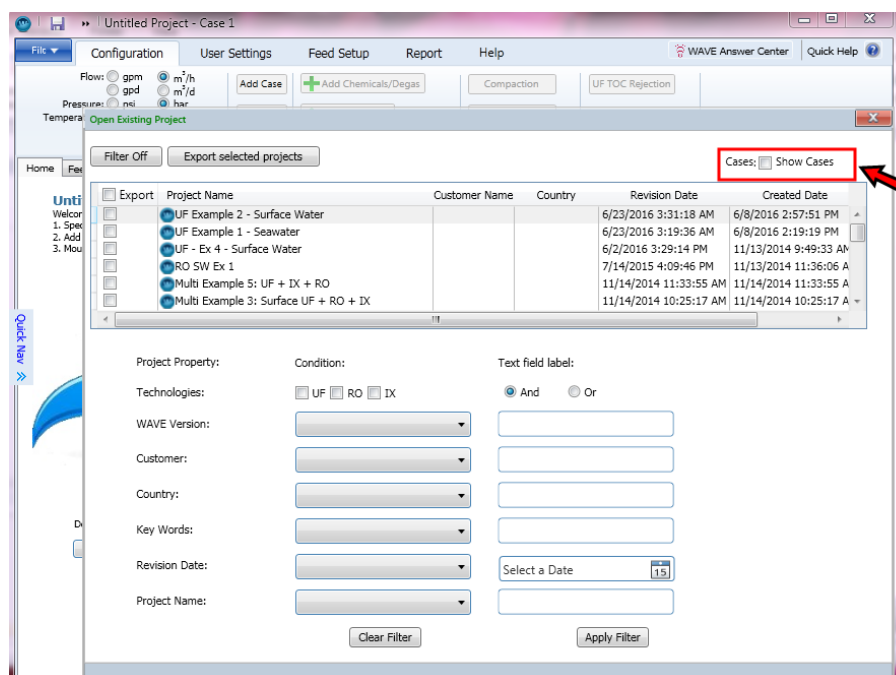
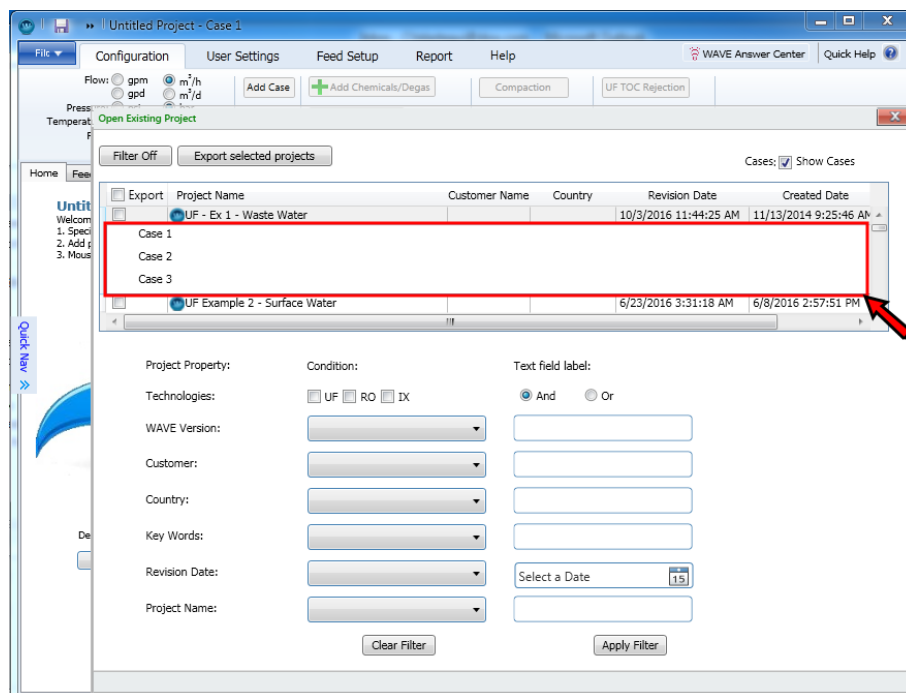

Figure 199. Selecting 'Show Cases'.
Figure 200. Display of cases in the 'Open Existing Projects' window.
2. Click on the “Show Cases” checkbox, as shown in Figure 199. The cases in that project are displayed as shown in Figure 200.